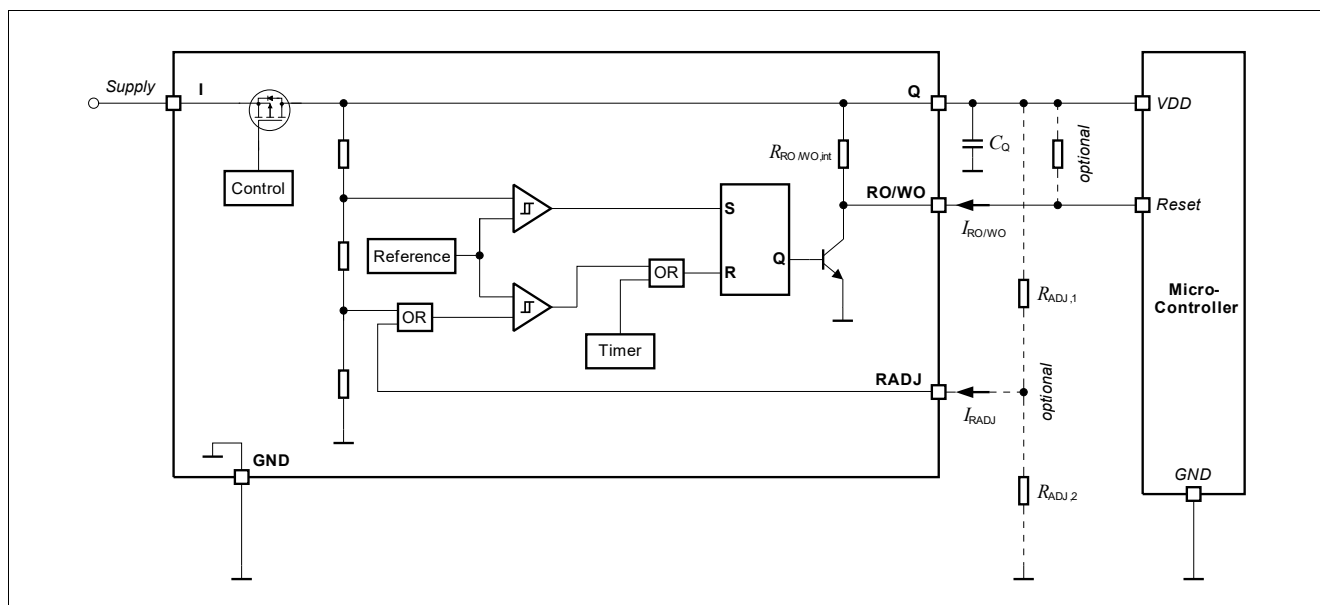

Figure 5 Block diagram reset circuit
- $R_{ADJ,1}$, $R_{ADJ,2}$: Resistors of the external voltage divider, see Figure 5.